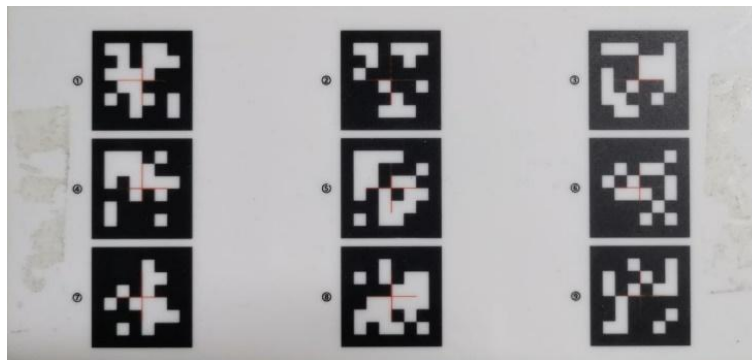
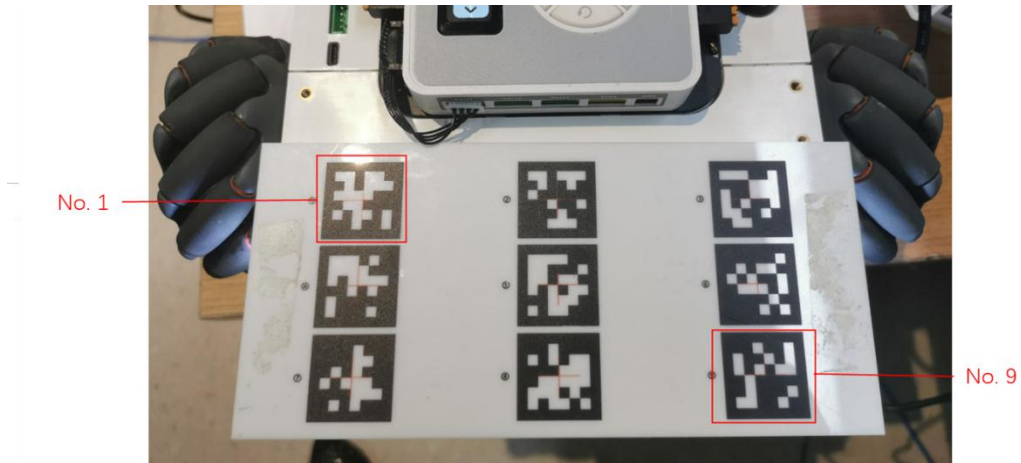

Figure 4.28 Calibration board
Figure 4.29 Place calibration board on pallet of Magician Go
**Step 1** The calibration board is shown in Figure 4.28. Place it on the pallet of Magician Go following the direction in Figure 4.29.